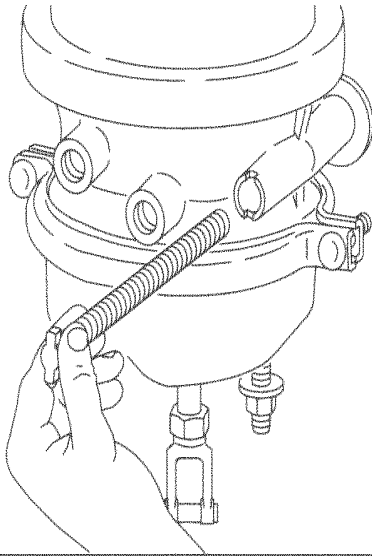

Fig. 3, Remove the Release Bolt
- 3.1 Using a hand wrench, (don't use an impact wrench), unscrew the release nut, and remove the nut, flatwasher, and release bolt from the storage pocket on the side of the chamber. See Fig. 3.